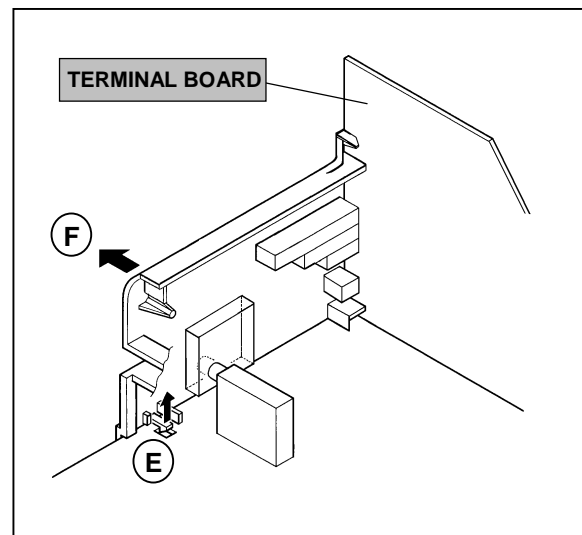

Fig. 1
2. After removing the claw marked (E) in the direction of arrow mark as shown in Fig.1.
3. When you pull out the TERMINAL BOARD in the direction of arrow marked (F) as shown in Fig.1, it can be removed.
<p>(7) SERVICE MENU setting Verify what to set in the SERVICE MENU, and set whatever is necessary. (Fig.1) Refer to the SERVICE ADJUSTMENT for setting.</p>